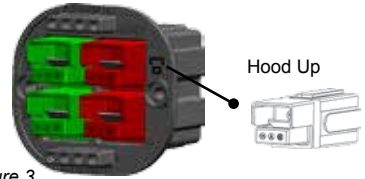

Figure 3
- Orient Powerpole® housing with hood up. (See figure 3)
- Insert first set of 1x2 blocked Powerpole® from the rear. Hood is up. (See figure 3) **NOTE:** *You feel them snap into place when fully inserted.*
- Orient the Powerpole® housing with hood up. (See figure 3)